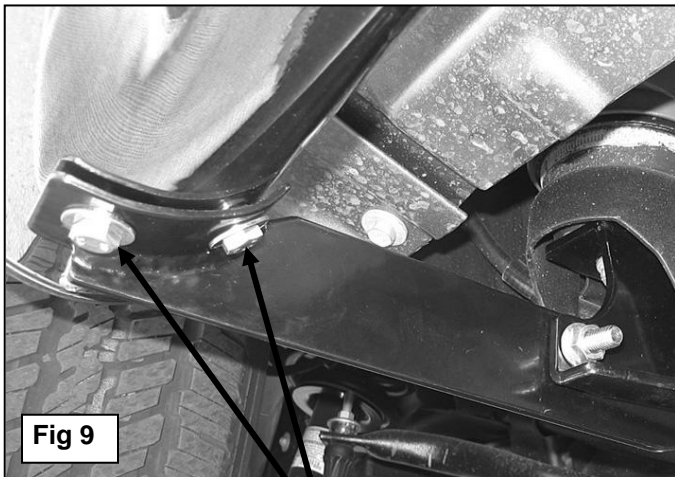

Fig 9
7. Carefully position the Driver Sidebar onto the Mounting Brackets. Attach the Sidebar to the Mounting Brackets with (6) 8mm x 25mm Hex Bolts, (6) 8mm Lock Washers and (6) 8mm Flat Washers, **(Figure 9)**. Do not tighten hardware at this time.